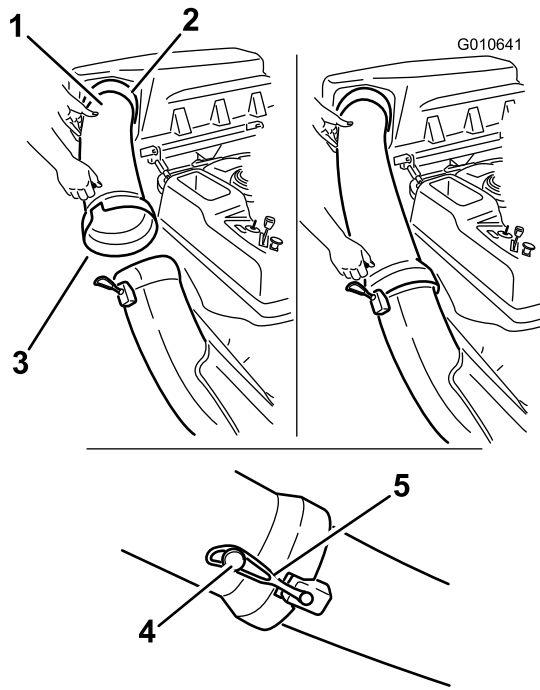

Figure 29
1. Slide the curved end of the discharge tube into the opening in the bagger top (Figure 29).
2. Slide the flared end of the discharge tube over the end of the chute. Move the rubber retaining strap on the chute snaps over the peg on the discharge tube to secure it (Figure 29).